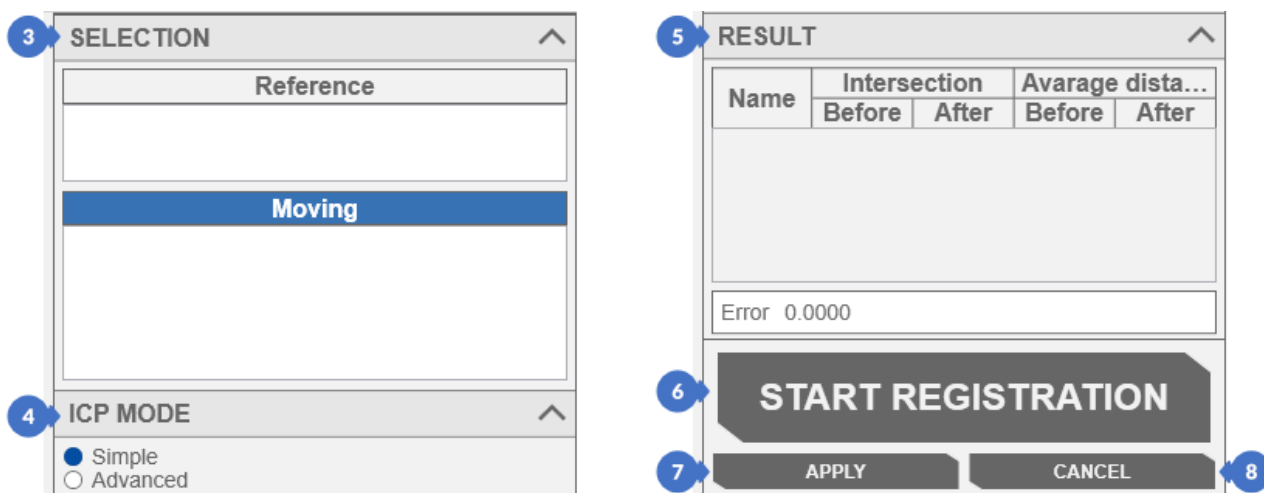

Figure 392. Panel of global alignment
Clicking on a scan inside the list shifts the selected item between the lists. After selecting the scans and the appropriate setting of the *ICP (Iterative Close Point)* algorithm mode, click the *START REGISTRATION* (6) button (Figure 392) which starts the global adjustment process.